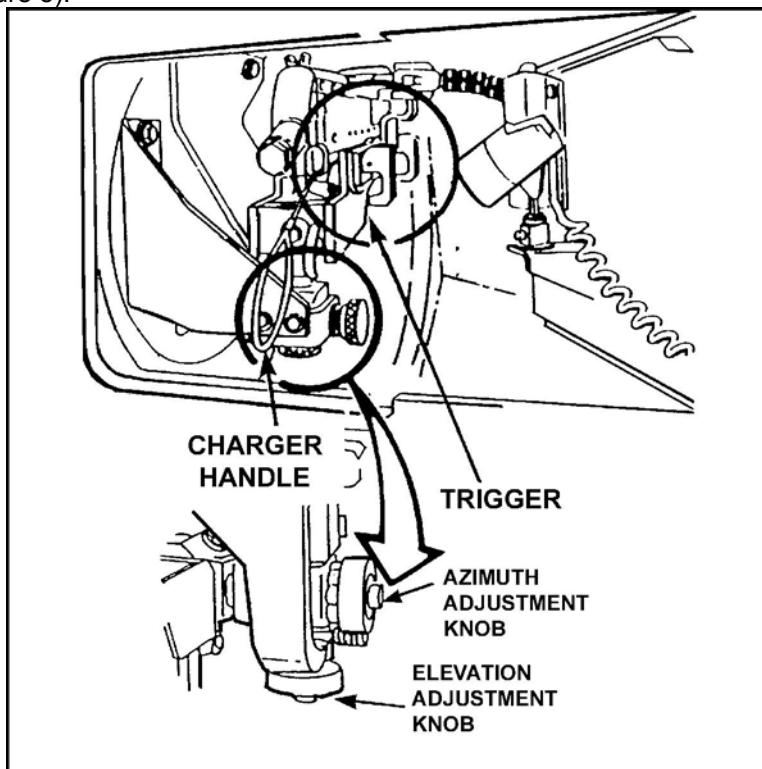

Figure 5. Azimuth and elevation adjustment knobs.
- Elevate or depress the M240C machine gun using the elevation adjustment knob as directed by the helper to align the elevation crosshair in the reticle of the boresight telescope on the aiming point of the target (Figure 5).
- Traverse the M240C machine gun to the left or right using the azimuth adjustment knob as directed by the helper to align the azimuth crosshair in the reticle of the boresight telescope on the aiming point of the target (Figure 5).